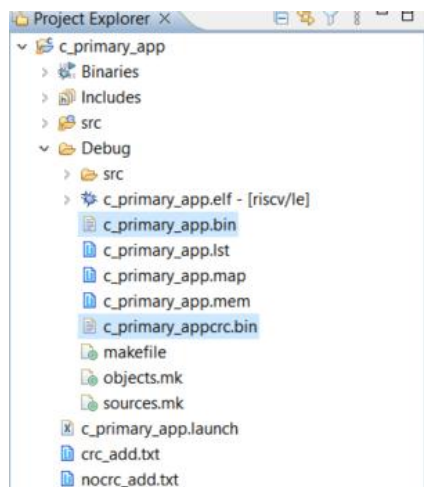

Figure 8.37. FreeRTOS App Binaries Created with CRC and without CRC
38. This creates the debug folder and the following files with **c_primary_app.bin** and **c_primary_appcrc.bin** binaries with CRC and without CRC as shown in Figure 8.37.